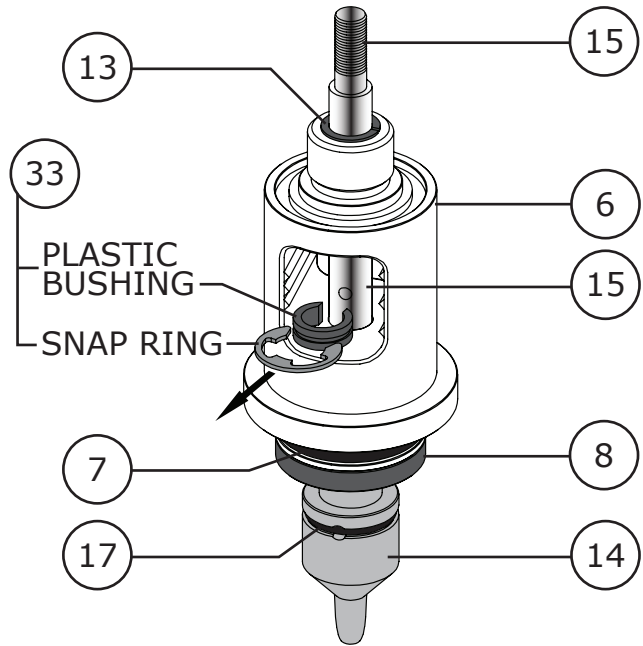

Figure 22 Travel Indicator Removal
- 5 Remove the travel indicator (Key 33) by removing the metal snap ring from the plastic bushing and then removing the plastic bushing from the stem (Key 15). Refer to Figure 22.